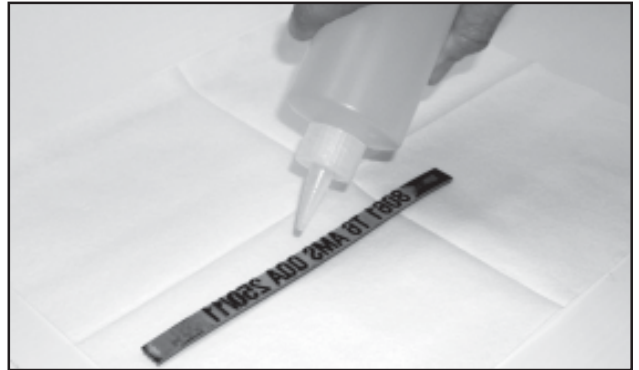

FIGURE 48
- 1 - Place the contaminated die on top of several layers of paper towels to absorb the excess liquid. Pour just enough soapy water on the face of the printing die to cover the die face as shown in Figure 48.